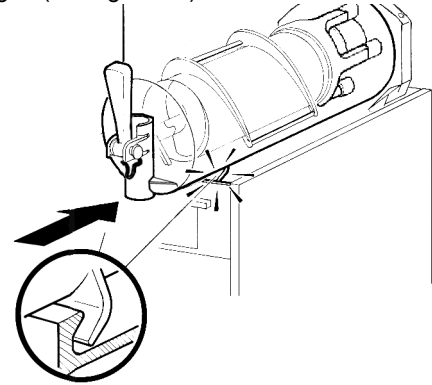

figure 14
- 6 Install the outer spiral. Slide it over the evaporator until its front notch engages with the exposed end of the auger shaft (see figure 14).